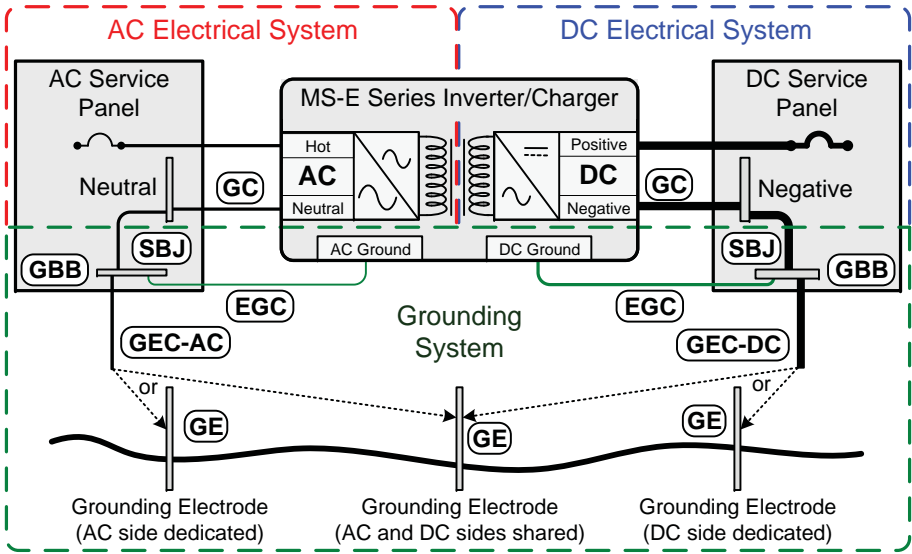

Figure 2-10, Grounding System for MS-E Series
The MS-E Series inverter/charger uses both AC and DC power; however, the AC electrical system is isolated from the DC electrical system by an internal transformer. Although this inverter/charger has two electrical systems, each electrical system **must** be properly grounded and connected to a common “earth” reference; refer to Figure 2-10.
**AC Side** – Where the AC output from the inverter is connected to an AC load center, there should be an equipment grounding conductor connected between the inverter case and the grounding point in the AC load center. The AC equipment grounding conductor (EGC-AC) is sized per Table 2-4, and is connected to the inverter’s AC equipment grounding terminal as shown in Figure 2-10.